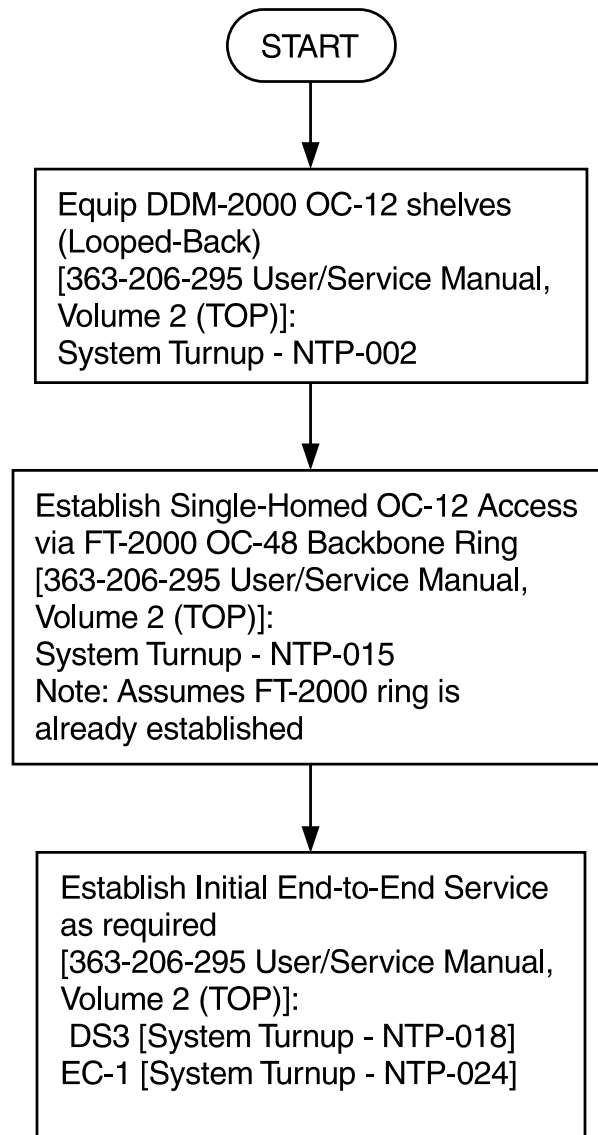

Figure 22 – DDM-2000/FT-2000 Large Network Configurations — Single-Homed OC-12 Access via FT-2000 OC-48 Backbone Ring
- Figure 22 DDM-2000/FT-2000 Large Network Configurations — Single-Homed OC-12 Access via FT-2000 OC-48 Backbone Ring